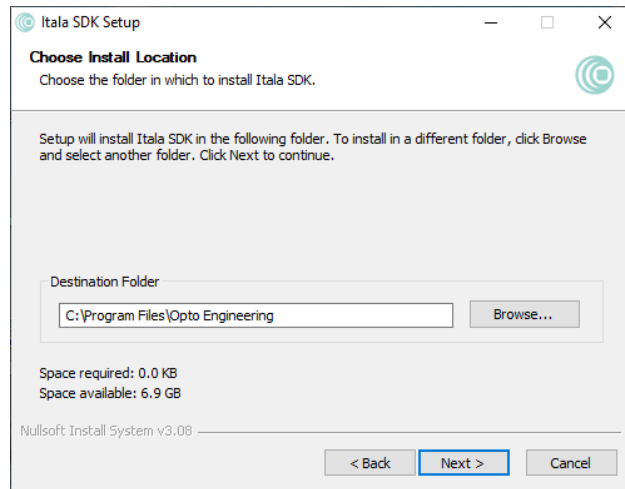

Figure 15: Itala SDK destination folder window.
4. Choose the destination folder (Fig.15).